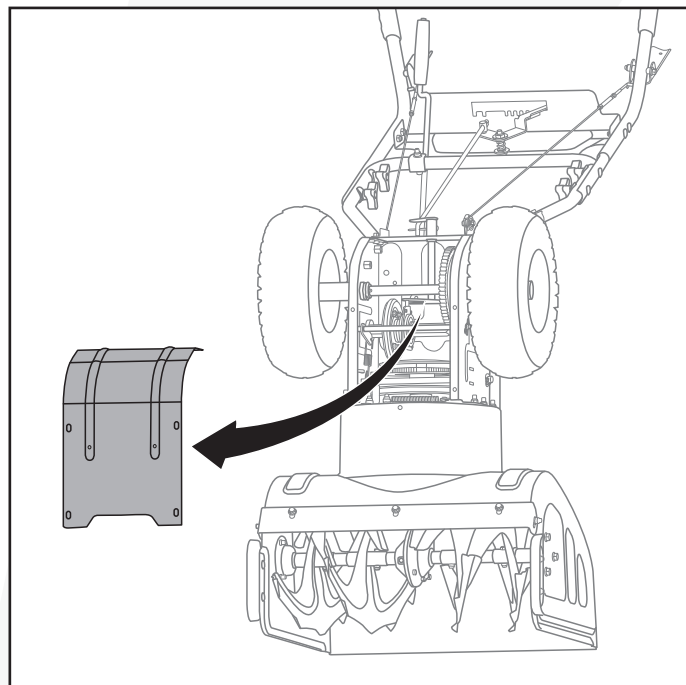

Fig. 19B
6. Carefully pivot the snow blower up and forward so that it rests on the auger housing. Place a piece of cardboard on the ground before tipping forward. Make sure all fluids are removed and the spark plug is disconnected. Remove the frame cover from the underside of the snow blower by removing the self-tapping screws that secure it. (Fig. 19B)